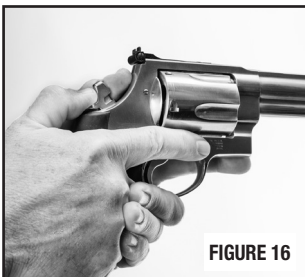

FIGURE 16
1.) Place the thumb of your free hand between the hammer and the frame of the handgun to prevent the hammer from moving fully forward until your finger is off the trigger and out of the trigger guard (FIGURE 16).